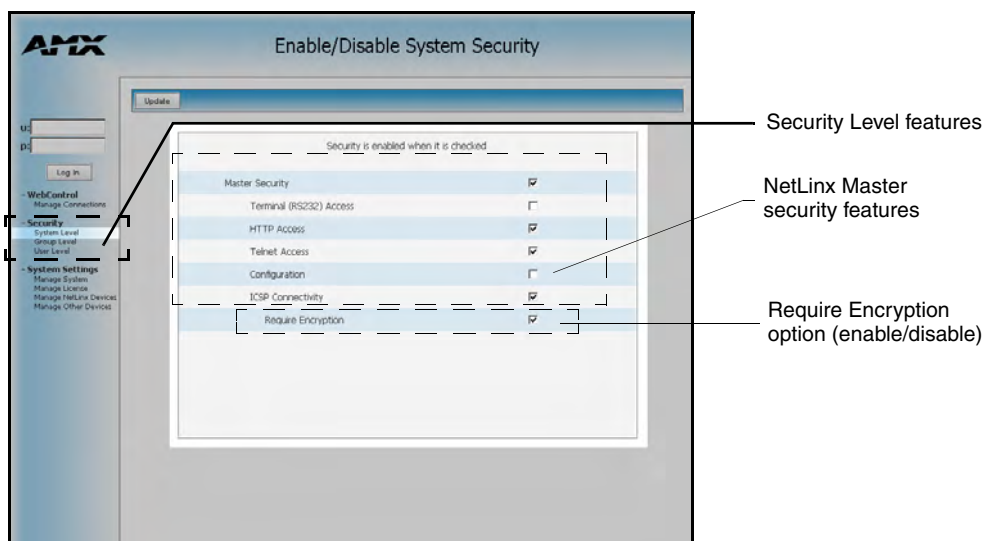

FIG. 43 System Level Security - Enable/Disable System Security page with selections
2. Click the **Security Level** link (from within the *Security* section of the *Navigation frame*) to open the System Security page. The **Master Security** checkbox selection (FIG. 43) toggles the appearance of the NetLinx Master security options.